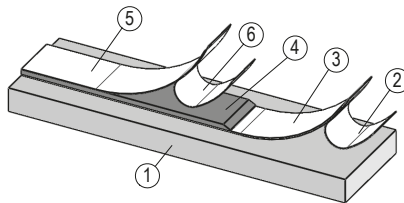

Fig. 2: Mounting of the magnetic strip
**Mounting (Fig. 2):**
1. Clean mounting surface ① carefully.
2. Remove protective film ② of the adhesive strip ③.
3. Stick down the magnetic strip ④.
5. Remove protective film ⑥ of the cover strip ⑤.